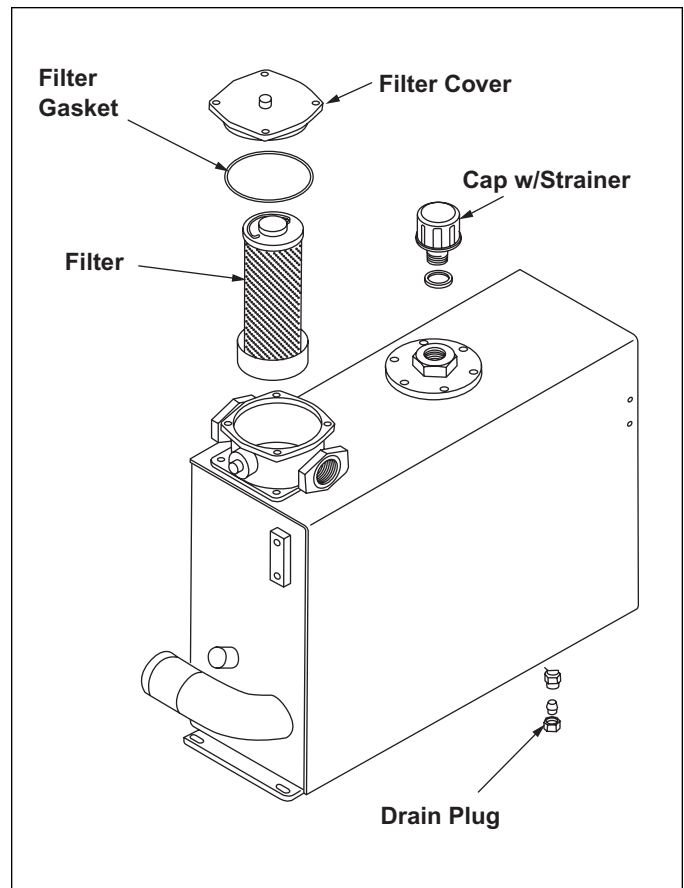

Figure 4-13. Hydraulic Oil Tank
4. Open the drain plug (Figure 4-13) and drain oil into a suitable container. Re-install drain plug and tighten securely.
5. Remove bolts and filter cover (Figure 4-13). Remove and discard old filter. Put clean hydraulic fluid on the filter gasket and install gasket and new filter into tank.